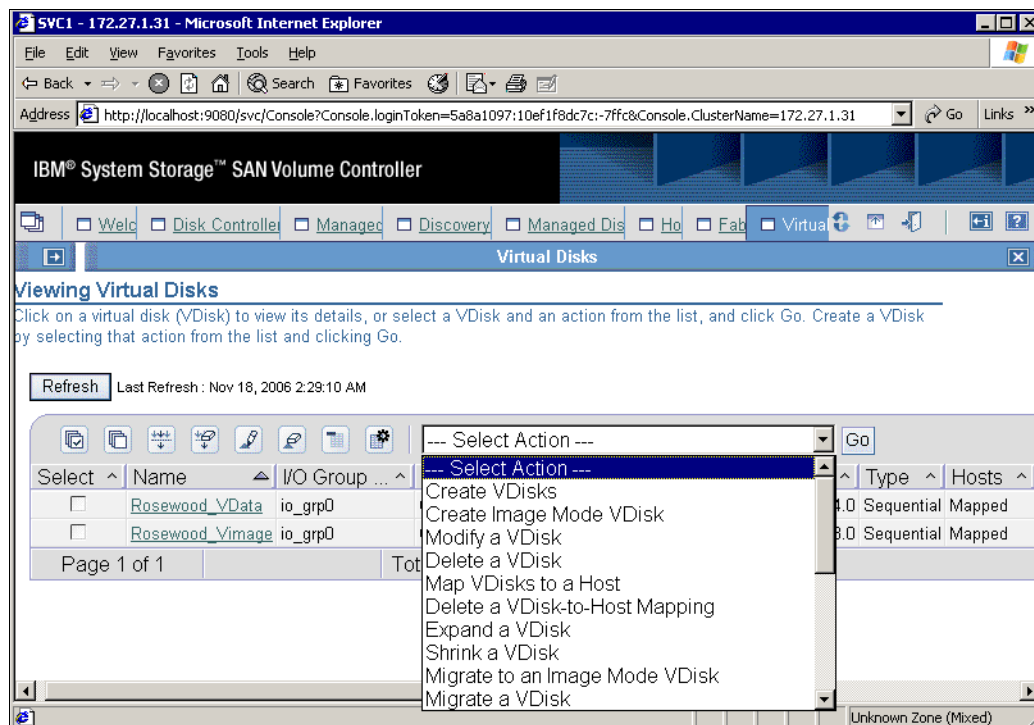

Figure 11-30 Map the VDisk to the host
- In Figure 11-30, map the VDisks to the host. Select **Working with Virtual Disks** and select the VDisk. From the drop-down Select Action menu, select **Map VDisk to a Host**.